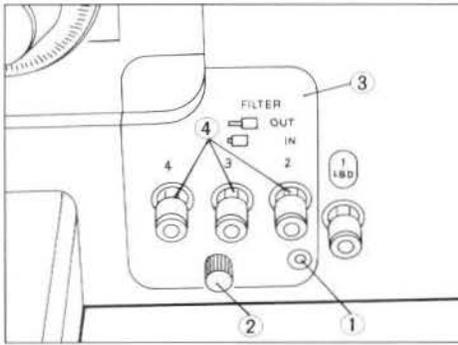

Fig. 16
1. Loosen the filter tray clamping screw ① with the Allen® wrench provided and pull out the filter tray ③ by means of the knob ②. (Fig. 16)
- ★ Do not pull out the filter holder knobs ④ when removing the filter tray ③, as the filter holders ⑥ may hit the base, preventing the removal of the filter tray and possibly damaging the filters. (Fig. 16)
3. Making sure the filter holder knobs are pushed in, insert the filter tray ③ into the base on the dovetail slides, then tighten the clamping screw ① with the Allen® wrench provided. (Fig. 16)